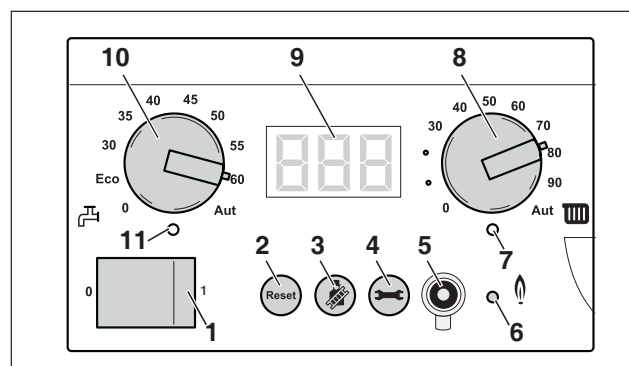

fig. 103 BC10 basic controller
- Set the upper CH flow temperature limit for heating mode using the "Maximum CH flow temperature" dial (fig. 103, **item 8**); see table 16.